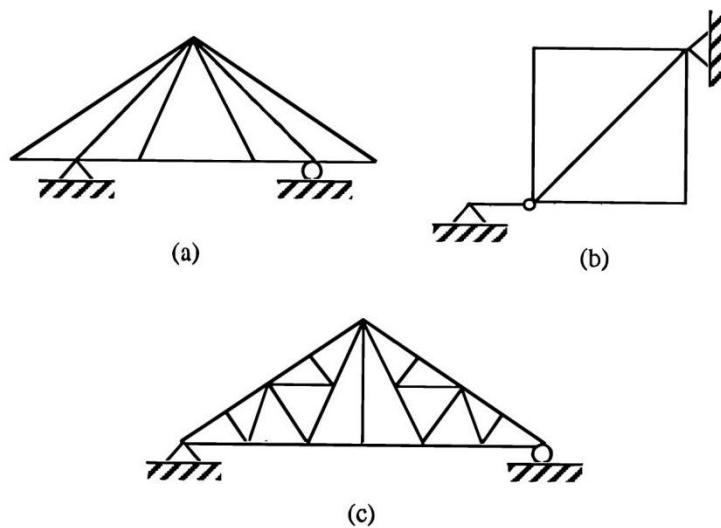

Fig. 7
- Q.7** Consider each of the plane trusses shown in Fig. 7 and determine if it is statically determinate. If it is not, is it unstable or statically indeterminate?